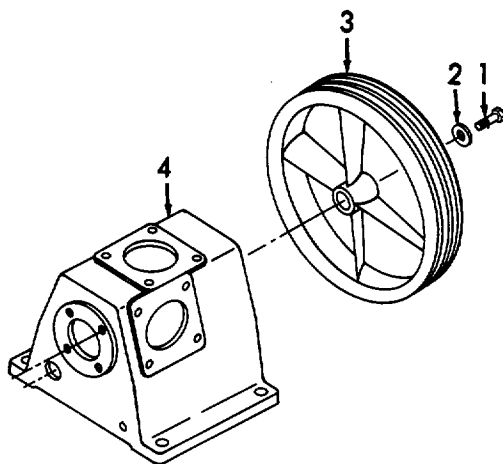

Figure 3-19. Compressor Flywheel, Removal.
a. *Removal.* (Refer to Figure 3-19).